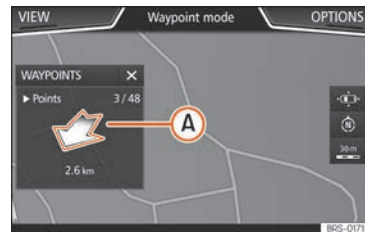

Fig. 242 Offroad route guidance mode
- The general direction of travel is indicated straight ahead by direction arrows in the Infotainment System pop-up window »» Fig. 242 **A**.